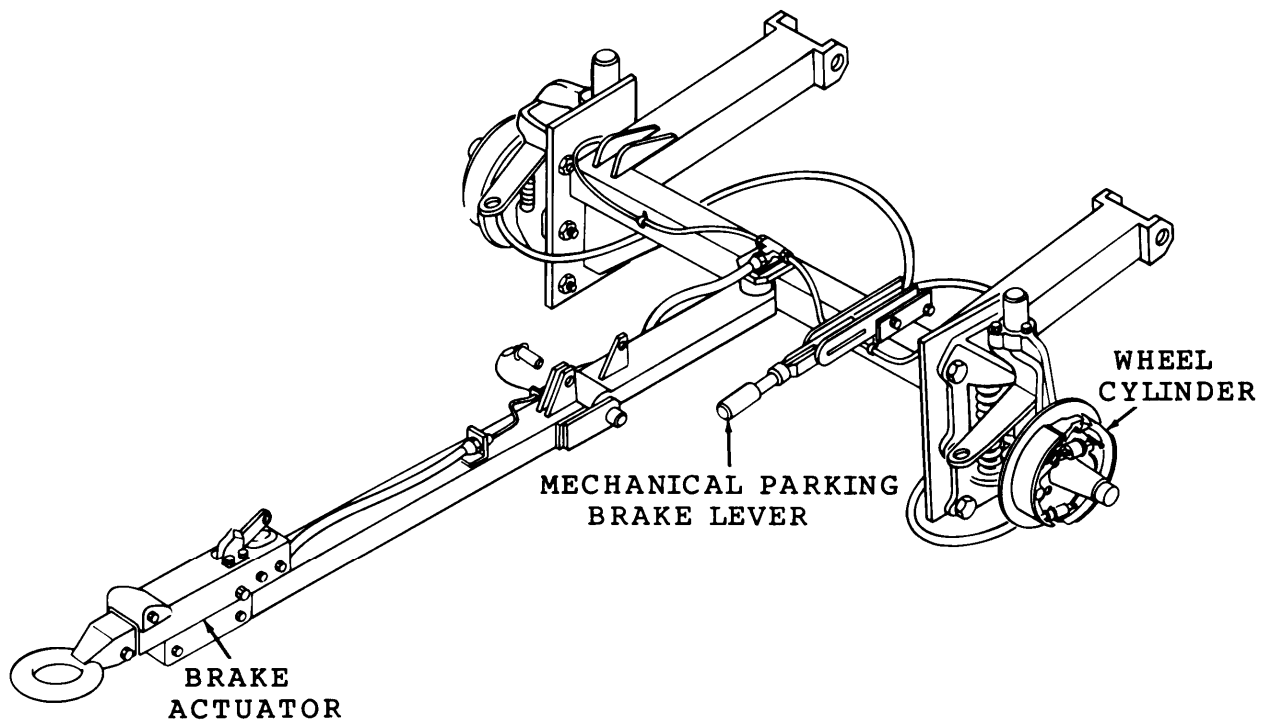

Figure 1-7. Brake Group Components.
d. *Brake Group.* The brake group (Refer to Figure 1-7), located on the front transporter assembly, consists of the following parts.
- (1) Mechanical Parking Brake Lever and Linkage. Links to hydraulic brake shoes and lining.
- (2) Surge Brake Actuator. Actuator is mounted on towbar. When brakes on tow vehicle are applied, trailer pushes against tow vehicle causing actuator to compress and exert a force on master cylinder that supplies hydraulic pressure to front brakes.
- (3) Wheel Cylinders and Brake Shoes. Wheel cylinders apply pressure to brake shoes.